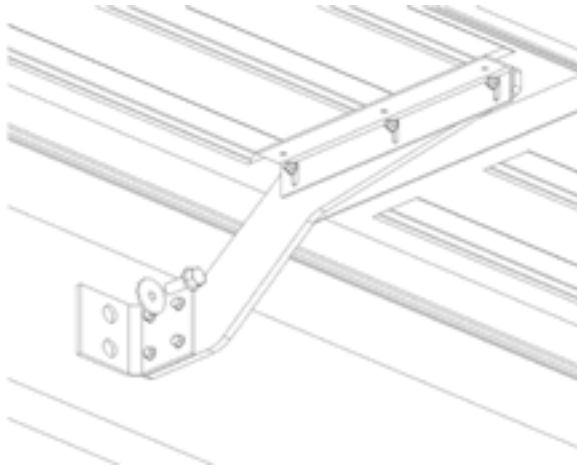

Figure 3
- B. Try to use the center bracket to attach the two fenders together using the 5/16 x 1-1/4" supplied bolts. If the center bracket does not line up correctly you can bolt the two pieces together and place the center bracket as close to the center of fenders as possible. Figure 3 shows a typical center bracket installation. Try and use existing holes to mount center bracket to truck frame.